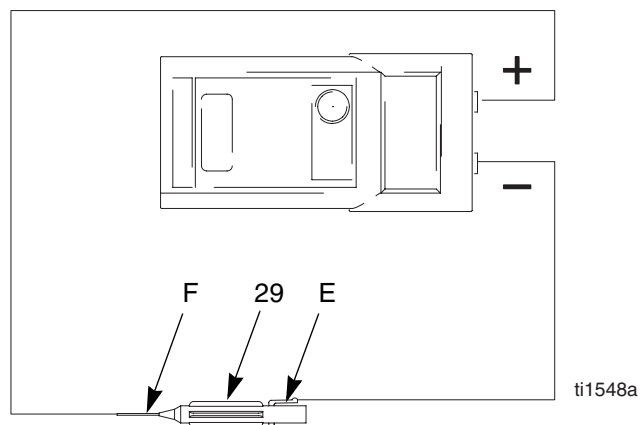

Fig. 7. Electrode
4. Remove the electrode (29), page 26. Measure the resistance between the contact (E) and the electrode wire (F). The resistance should be 20-30 megohms. If out of range, replace the electrode. See FIG. 7..